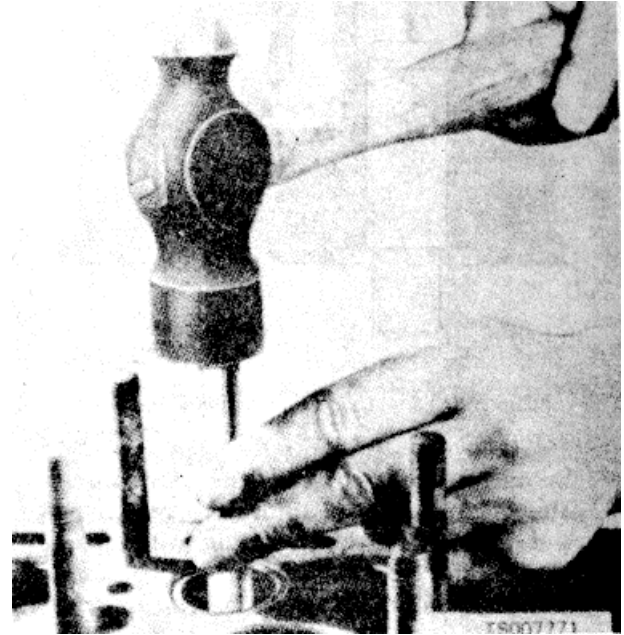
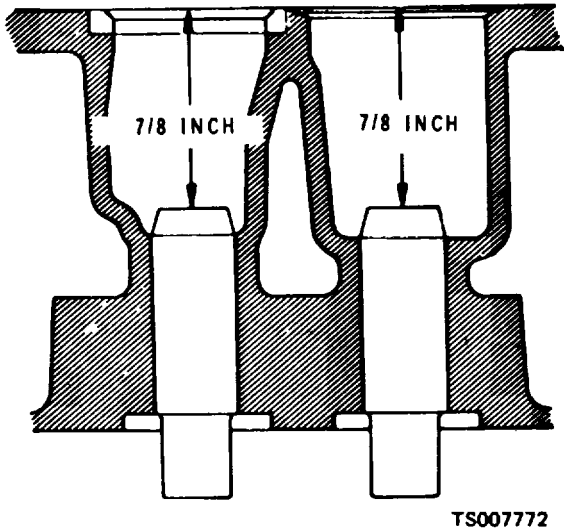

Figure 9-7. Removing Valve Guides.
Figure 9-8. Valve Guide Installation Dimensions.
f. If the valve guides are worn or damaged, drive out the guides from the combustion side, using a driver that is slightly smaller than the external diameter of the guide (fig. 9-7). With the driver, drive in new guides from the combustion side. When properly seated, valve guide tops will be 7/8 inches from the top of the block (fig. 9-8).